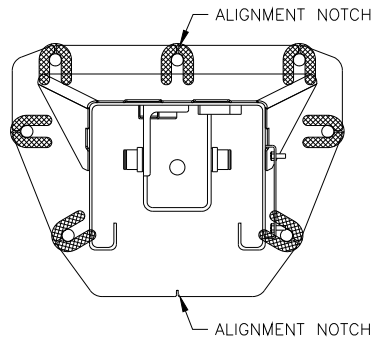

Fig 2 – Column Shimming
- 7) Shim both columns to plumb using the shims provided as shown in **Fig 2**. DO NOT shim more than 1/2" at any given point. Use a level no less than 24" in length to plumb columns.